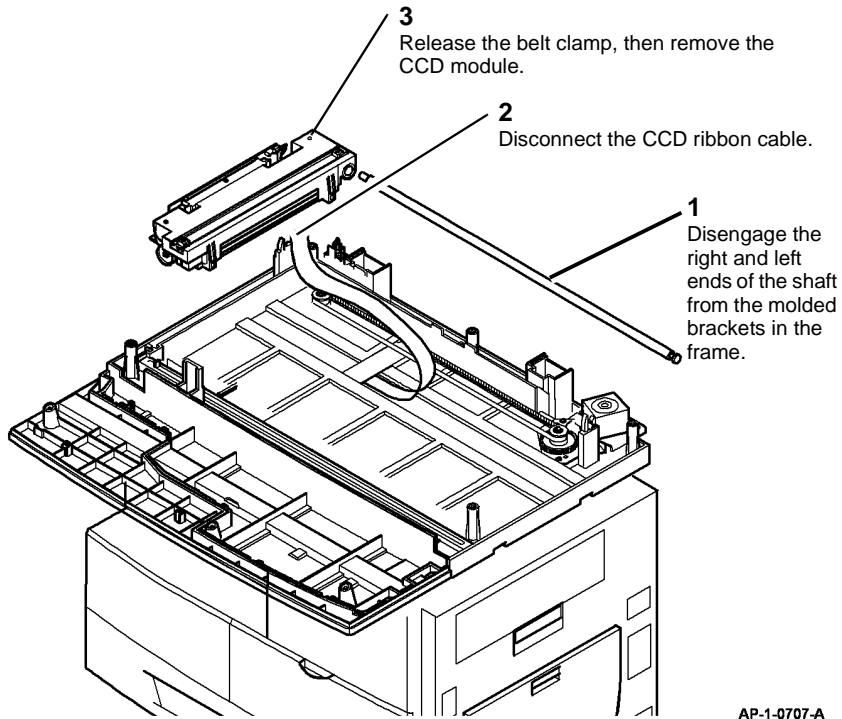

Figure 6 Removing the CCD Module
2. Ensure that the scanner drive belt is installed correctly into the belt clamp on the CCD module, Figure 6.
9. Remove the CCD module (Figure 6).